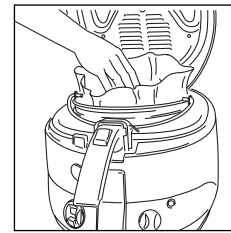

fig. 10
8. Put the basket back in the high position and place one of the filters supplied at the bottom of the basket (fig. 10). You can obtain the filters from your retailer or one of our service centres.